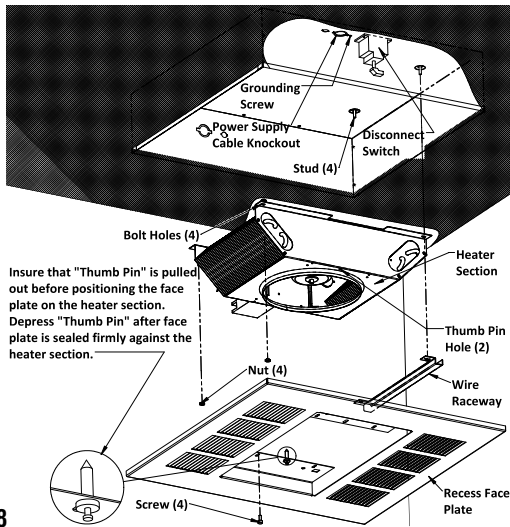

Figure 8
- Position the heater section over the studs in the recess mounting box (Figure 8).
13. Push the heater section onto the studs and securely tighten two nuts (supplied) on the studs to secure the half of the heater section opposite the sleeved wires to the recess mounting box. Push the raceway onto the studs ensuring that the sleeved wires are in the raceway and securely tighten two nuts (supplied) on the studs to secure the raceway and the other half of the heater to the recess mounting box (Figure 8).
15. Remove the recess face plate (Figure 8) from the carton containing the Recess Mounting Enclosure, Type FIE-REB-N or FIE-REBNW-W.
18. Install and securely tighten four screws (supplied) to secure the recess face plate to the heater section (Figure 8).